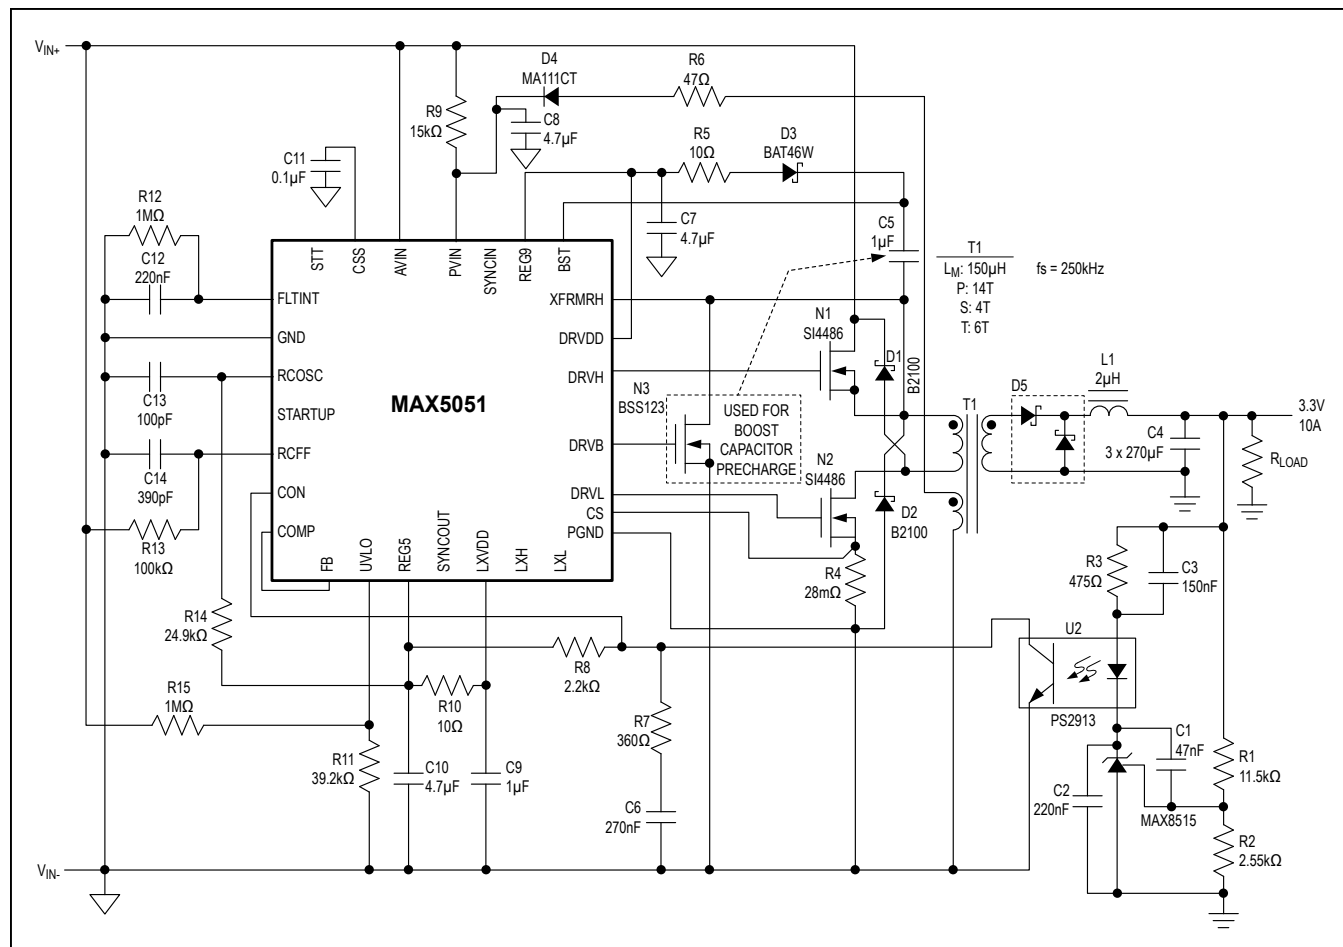

Figure 2. Typical Application Circuit
The two-switch power topology has the added benefit of recovering practically all magnetizing as well as the leakage energy stored in the parasitics of the isolation transformer. The lower clamped voltages on the primary power FETs allow for the use of low $R_{DS(ON)}$ devices. Figure 2 shows the schematic diagram of a 48V input 3.3V/10A output power supply built around the MAX5051.
If the charge stored on the boost capacitor is not adequately replenished then the gate-driver lockout for the high-side MOSFET is triggered, stopping the high side from switching. The low side continues switching, eventually recharging the capacitor, at which point the high side starts switching again. To prevent this behavior, use the boost capacitor's cycle-by-cycle charging circuit to prevent unwanted shutdowns of the high side (Figure 2). Connect the gate of a small high-voltage FET (with the same voltage rating or higher as the main FETs) to the DRV_B output of the MAX5051. Connect the drain of this FET to XFRMRH, and connect the source to the primary ground. DRV_B will briefly (300ns) turn this FET ON every cycle after the main PWM clock terminates. This allows the boost capacitor to be replenished under all conditions, even when switching stops completely. A suitable FET for this is BSS123 or equivalent (100V, 170mA rated). The boost-capacitor charge diode is a high-voltage, small-sig-
The error amplifier in the MAX5051 has an uncommitted inverting input (FB) and output (COMP). Use this amplifier when secondary isolation is not required. COMP can then be directly connected to CON (the input of the PWM comparator). The noninverting input of the error amplifier is connected to the soft-start generator and is also available externally at CSS. A capacitor connected to CSS is slewed linearly during initial startup with the 70μA internal current source (see Figure 2). This provides a linearly increasing reference to the noninverting input of the error amplifier forcing the output voltage also to slew proportionally. This method of soft-start is superior to other methods because the loop is always in control. Thus, the output-voltage slew
After coming out of standby and before initiating the soft-start, the MAX5051 turns on the low-side FET to charge up the boost capacitor. A voltage detector has been incorporated in the high-side driver that prevents the high-side switch from turning on with insufficient voltage. It is also used to indicate when the boost capacitor has been charged. Once the capacitor is charged, soft-start commences. If the duty cycle is low, the magnetizing energy in the transformer may be insufficient to keep the bootstrap capacitor charged. DRVb (see Figure 2 dotted lines) has been provided to drive a small external FET connected between XFRMRH and PGND, and is pulsed every cycle to keep the capacitor charged.